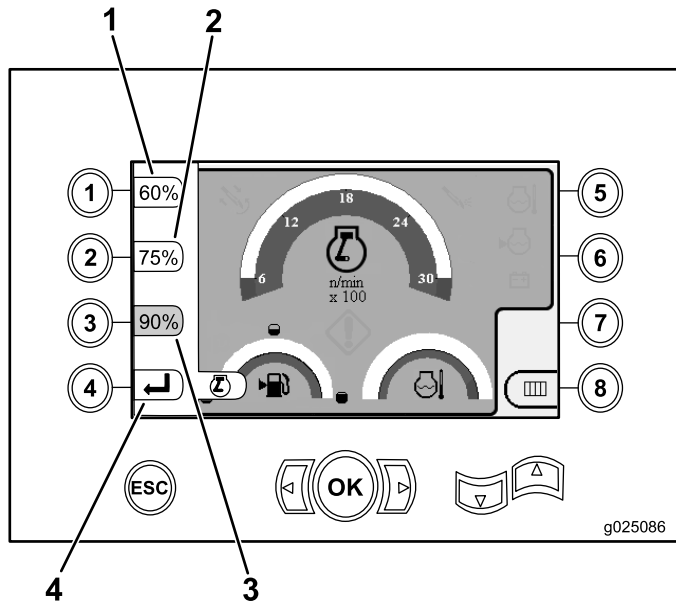

Figure 20
- Press button number 1 to activate 60% engine speed (rpm) as shown in Figure 20.
- Press button number 2 to activate 75% engine speed (rpm) as shown in Figure 20.
- Press button number 3 to activate 90% engine speed (rpm) as shown in Figure 20.
- Press button number 4 to return to the main-operating screen (Figure 20).